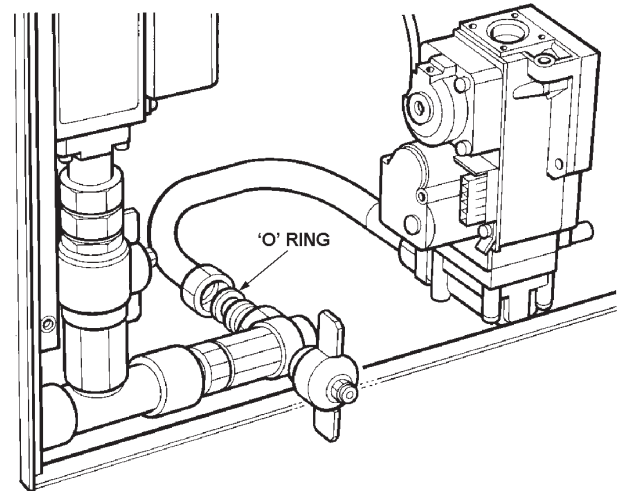

Fig. 4
2. Disconnect flexible gas inlet as shown, ensuring not to lose o-ring. (See Fig. 4).